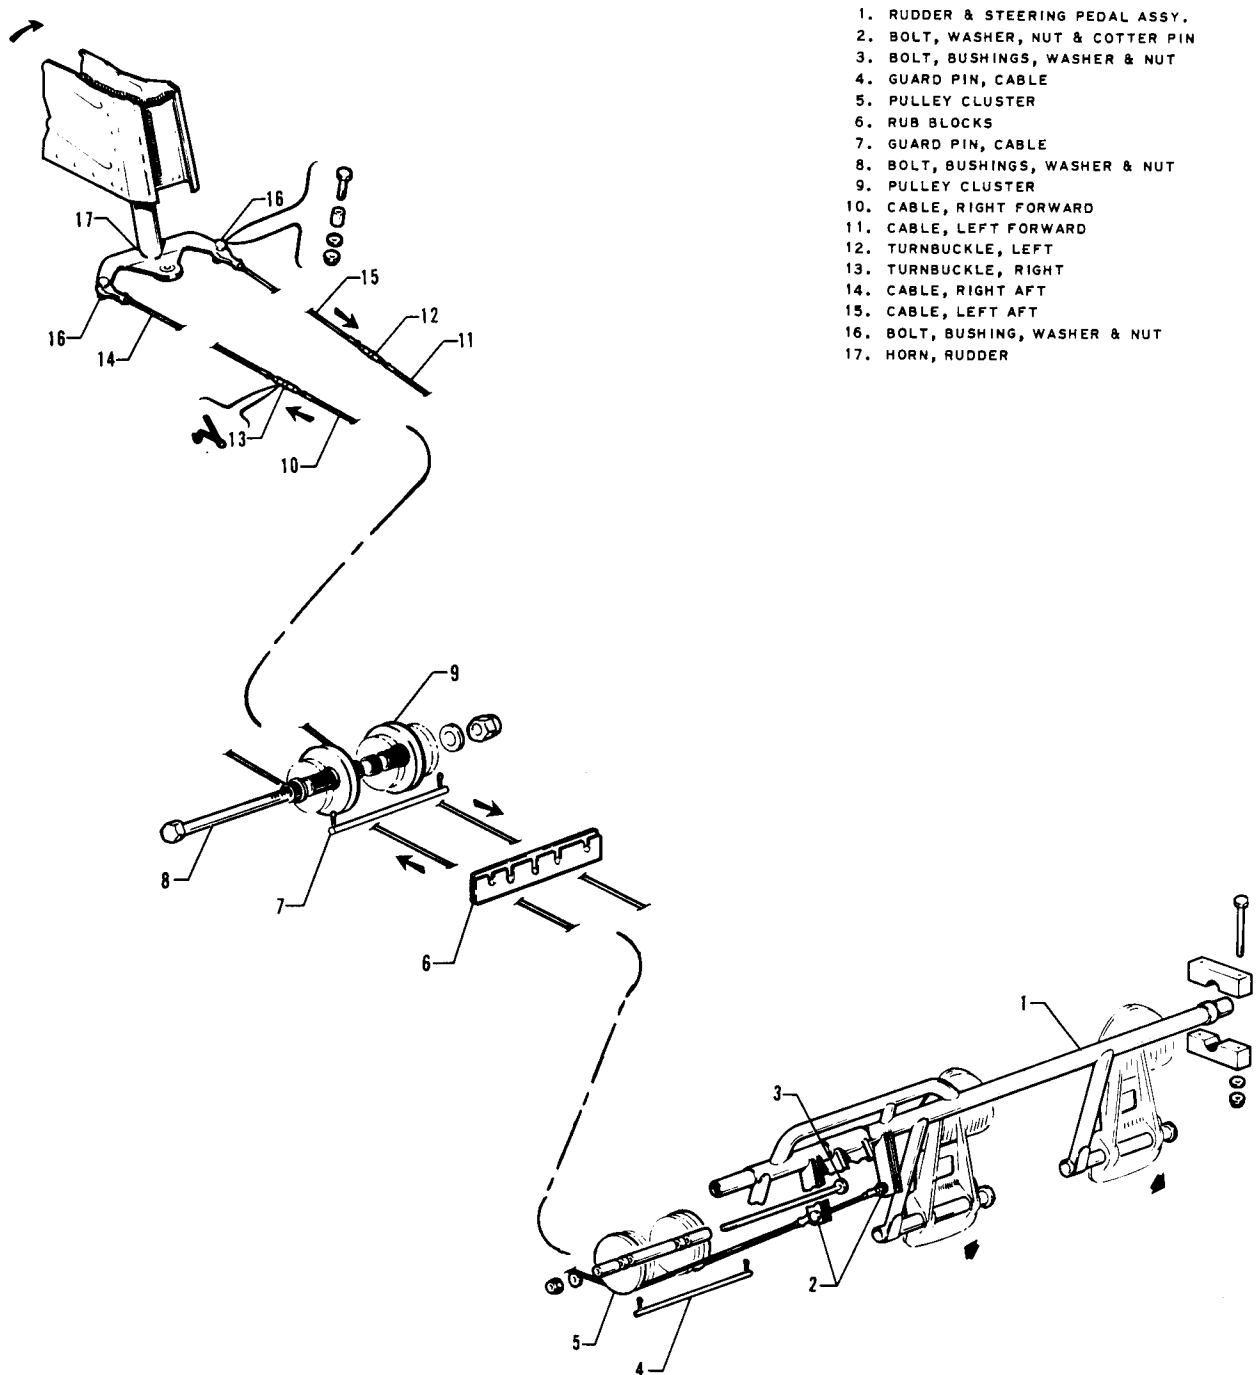

Figure 5-10. Rudder Controls
#### 5-27. REMOVAL OF RUDDER CONTROL CABLES. (Refer to Figure 5-10.)
2. Disconnect the cable (14 or 15) from the rudder horn (17) by removing cotter pin, nut, washer and bolt (16).
**5-28. INSTALLATION OF RUDDER CONTROL CABLES. (Refer to Figure 5-10.)**
2. Connect the end of the cable to the arm on the rudder pedal torque tube by installing bolt, washer, nut and cotter pin (2). Allow the cable end free to rotate on the arm.
4. Move the cable guard (4) into position under the pulley cluster (5) that is located in the forward area of the tunnel and secure the guard with cotter pin.
5. Within the area aft of the main spar, install the cable guard blocks (6) onto the spar housing and secure with screws.
6. Install the cable guard (7) under the pulley cluster (9) located just aft of the flap torque tube.